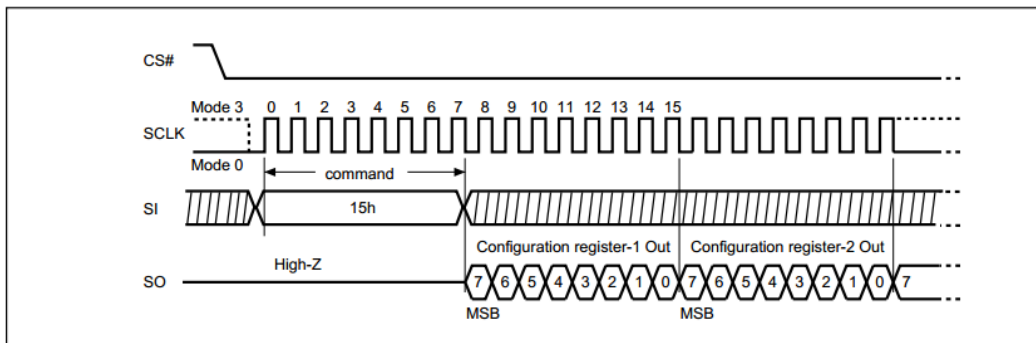

Fig 17-6 Read Configuration Register sequence (FlashClass6)
**Note 2:** For MXIC wide-range VCC, the Read Configuration Register would be checked whether the chip is in high performance mode by default once power-on, as Fig 17-6 shows. If not, we would switch it to high performance mode.